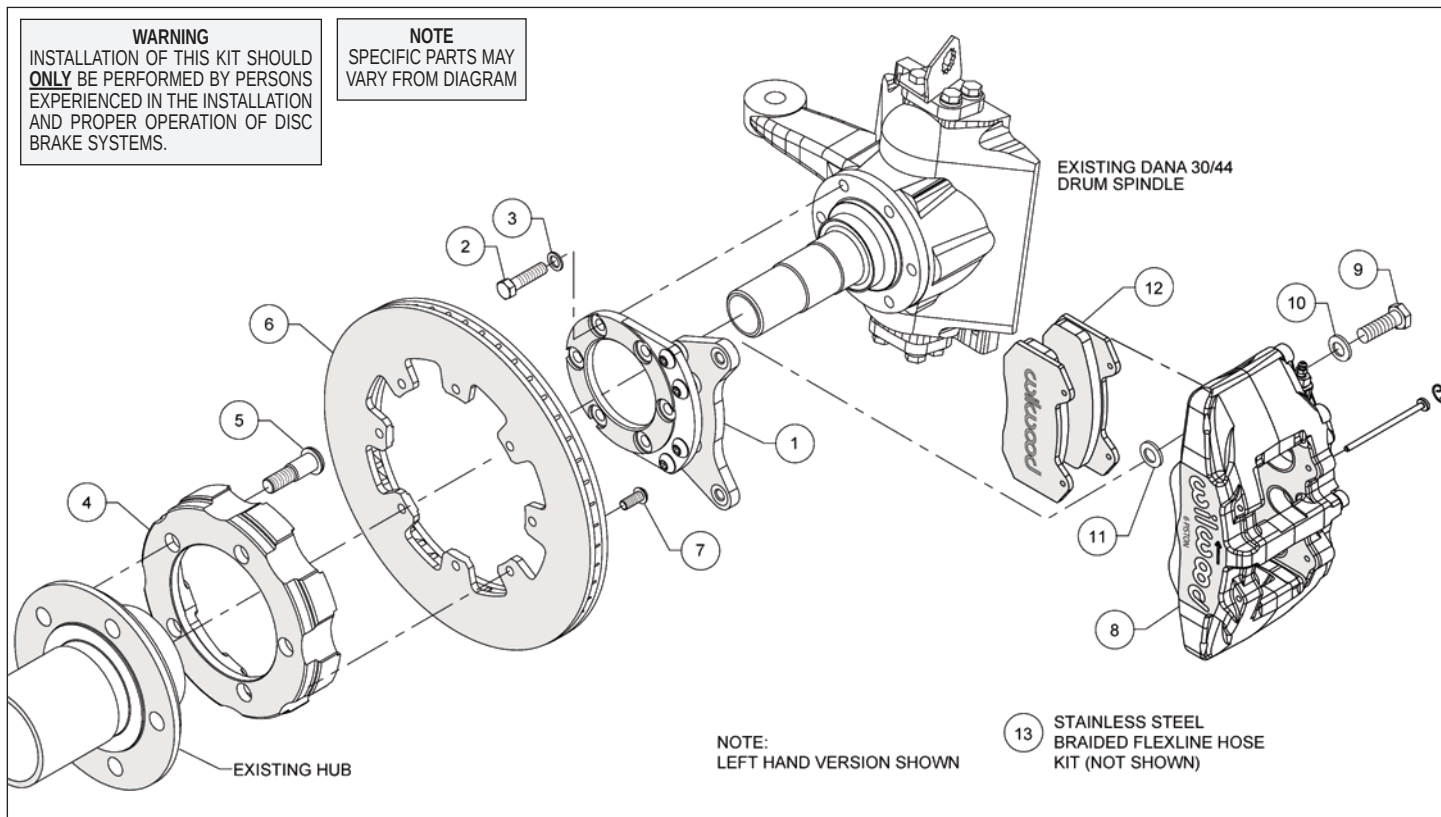
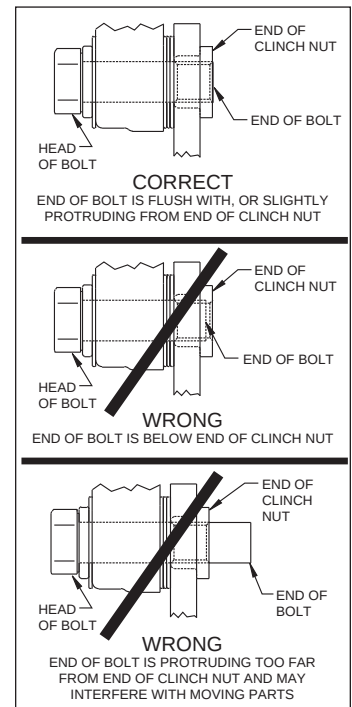

Figure 1. Typical Installation Configuration
Figure 3. Clinch Nut Engagement Diagram
Assembly Instructions (numbers in parenthesis refer to the parts list and Figure 1 on the preceding pages): **CAUTION:** *All mounting bolts must fully engage clinch nuts.* Be sure to check that all bolts are either flush or protruding through flanged side of clinch nut after shimming, Figure 3.
- Orient the caliper mount bracket (1) as shown in Figure 1 and Photo 1, and install using bolts (2), and washers (3). Ensure that the flanged heads of the clinch nuts in the bracket are facing outboard, Photo 1. Temporarily tighten the mounting bolts. **NOTE:** *The bracket must fit squarely against the mount bosses on the upright.* Inspect for interference from casting irregularities, machining ridges, burrs, etc. Remove bolts one at a time, apply red *Loctite*® 271 to the threads and torque to 40 ft-lb.
- Orient the hat (4) and the OEM hub as shown in Figure 1 and Photo 2. **NOTE:** *The hat must fit flush against the axle hub or excessive rotor run out may result.* Press fit the wheel studs (5) thru the holes in the hat and into the existing hub. **NOTE:** *We recommend this procedure be performed by a qualified machinist.*
- Orient the rotor (6) and the hat/hub assembly as shown in Figure 1 and Photo 3. Attach rotor to hat using bolts (7). Using an alternating sequence, apply red *Loctite*® 271 to the threads, and torque to 25 ft-lbs.
- NOTE:** *Please reference the caution statement at the beginning of the assembly instructions. This kit contains distinct right and left hand calipers that must be mounted in a specific direction, as described below.* Mount the caliper (8) onto the caliper mounting bracket (1) using bolts (9) and washers (10), as shown in Figure 1. Initially place one .035" thick shim (11) on each bolt between the caliper and the bracket, Photo 5. Ensure that the caliper is mounted so the largest pistons are at the rotor exit end of the caliper, in relation to the direction of rotor rotation. Temporarily tighten the mounting bolts and view the rotor (6) through the top opening of the caliper. The rotor should be centered in the caliper, Photo 6. If not, adjust by adding or subtracting shims
between the bracket and the caliper. Always use the same amount of shims on each of the two mounting bolts. **NOTE:** The end of each bolt must be flush with or slightly protruding from the head of the clinch nut, as shown in Figure 3. If necessary place spare shims between washer (10) and caliper mounting ear to achieve the proper clinch nut engagement. Once the caliper alignment and clinch nut engagement are correct, remove the caliper bolts and caliper.